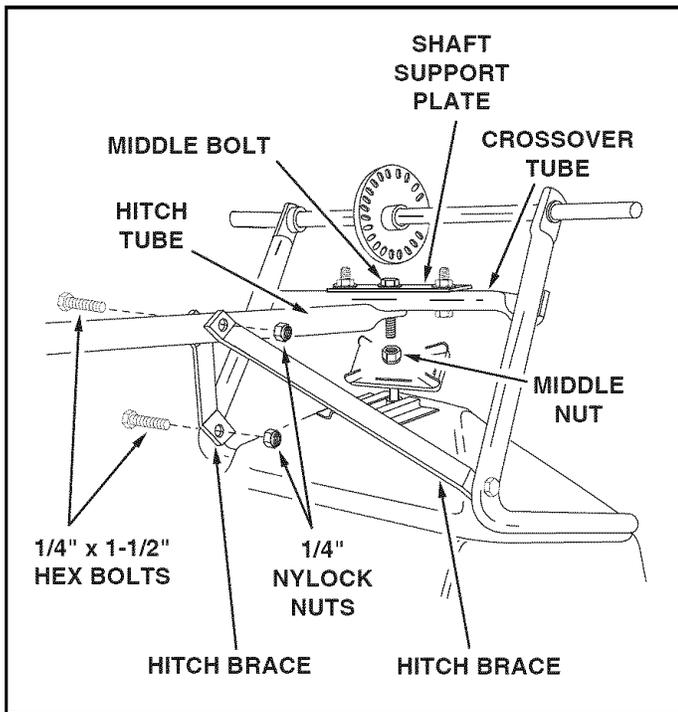

FIGURE 2
- Assemble the two hitch braces to the inside of the hopper frame, one on each side, using two 1/4" x 1-1/2" hex bolts and two 1/4" nylock nuts. **DO NOT TIGHTEN YET.** See figure 2.
- Remove the nut from the middle bolt in the crossover tube and shaft support plate. Leave the bolt in place. See figure 2.
- Assemble the hitch tube onto the middle bolt and secure it with the same nut you removed. **DO NOT TIGHTEN YET.** See figure 2.
- Assemble the two hitch braces to the hitch tube using a 1/4" x 1-1/2" hex bolt and a 1/4" nylock nut. **DO NOT TIGHTEN YET.** See figure 2.